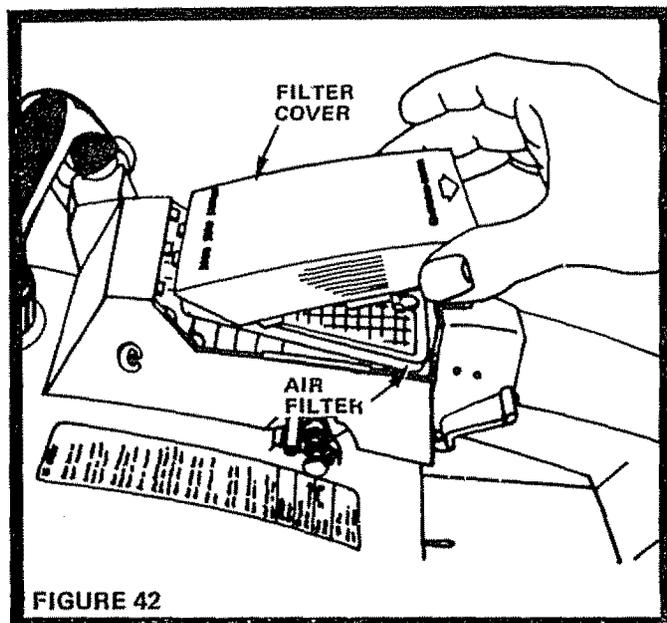

FIGURE 42
3. Reposition Air Filter as shown in Fig. 42.
- a. Insert Cover Tabs between Rear Handle Tabs (Fig. 42).